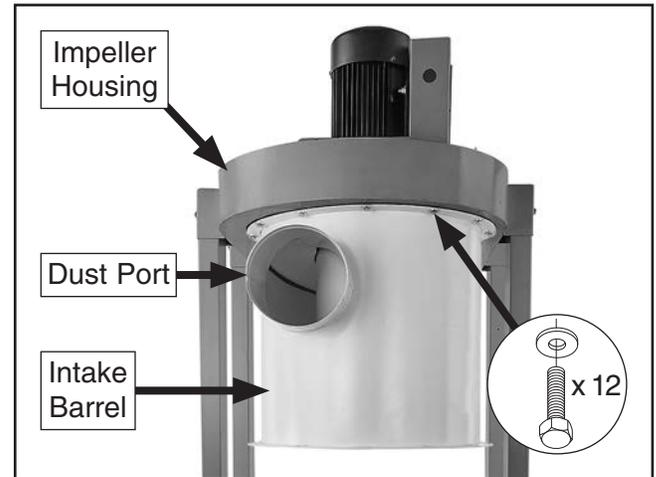

Figure 22. Intake barrel attached to impeller housing.
20. Have assistant hold intake barrel and attach to impeller housing using (12) $\frac{5}{16}$ "-18 x $\frac{3}{4}$ " hex bolts and (12) $\frac{5}{16}$ " fender washers (see **Figure 22**). Finger-tighten for now.